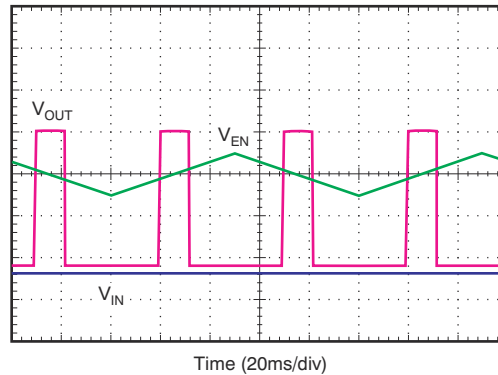

Figure 7-1. Enable Pin Positive and Negative Threshold
The TPS7H1210-SEP provides a dual-polarity enable pin (EN) that turns on the regulator when $|V_{EN}| > 2\text{ V}$, whether the voltage is positive or negative, as shown in Figure 7-1. Specifically, if $V_{EN} \geq V_{EN(+HI)}$ or $V_{EN} \leq V_{EN(-HI)}$, the regulator is enabled. If $V_{EN(+LO)} \geq V_{EN} \geq V_{EN(-LO)}$, the regulator is disabled.